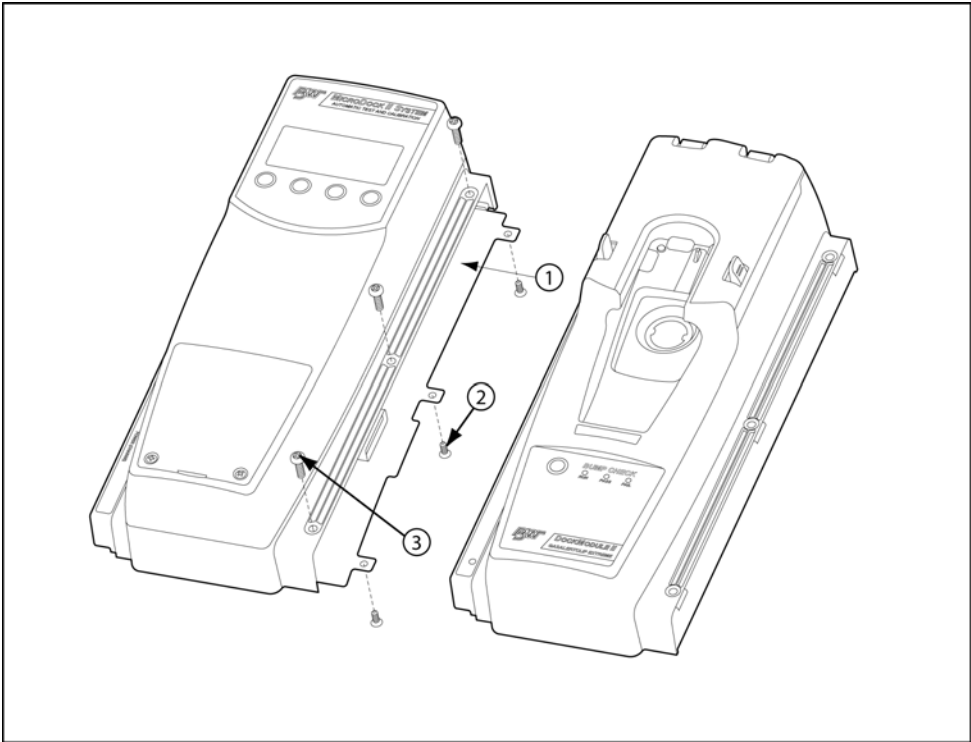

Figure 19. Detaching the GasAlertClip Extreme Module
3. Gently separate the docking module from the base station or other docking modules. Refer to Figure 19.